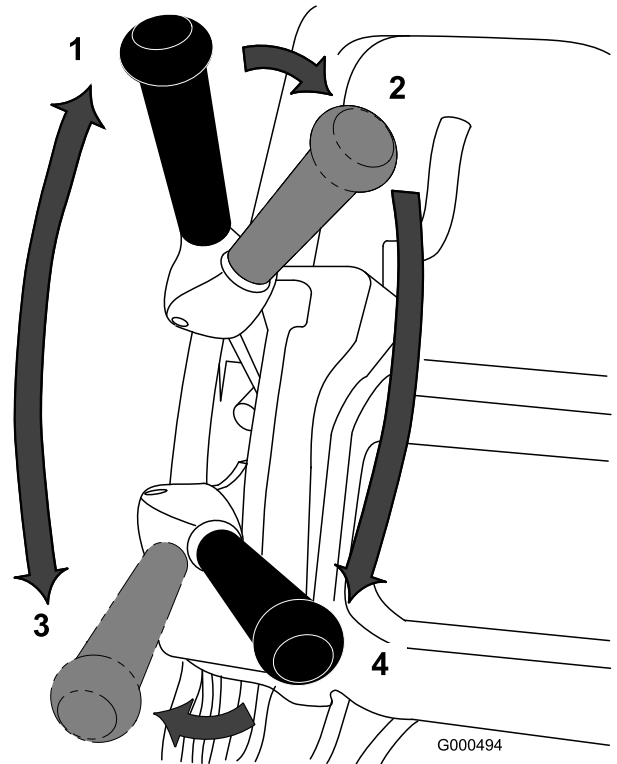

Figure 30
1. Start the engine, set the throttle to a reduced speed, push down on the handle to raise the cutting unit, press the operator-presence control, move the traction lever to the ENGAGED position and transport the machine onto the collar of the green (Figure 30).
2. Move the traction lever to the DISENGAGED position and engage the reel-drive lever (Figure 30).
3. Move the traction lever to the ENGAGED position, increase the throttle speed until the machine is traveling at the desired ground speed, drive the machine out onto the green area, lower the front of the machine down, and commence operation (Figure 30).